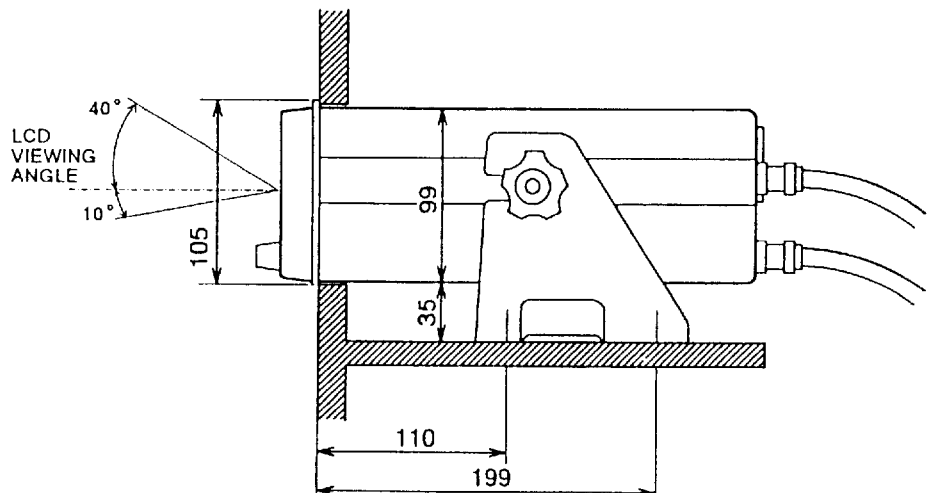

Figure 1-3 Mounting dimensions for flush mount
- Select a place where the LCD can be easily viewed, keeping in mind that the LCD viewing angle is as shown in Figure 1-3.
Prepare a cutout in the mounting location as shown in Figure 1-3.